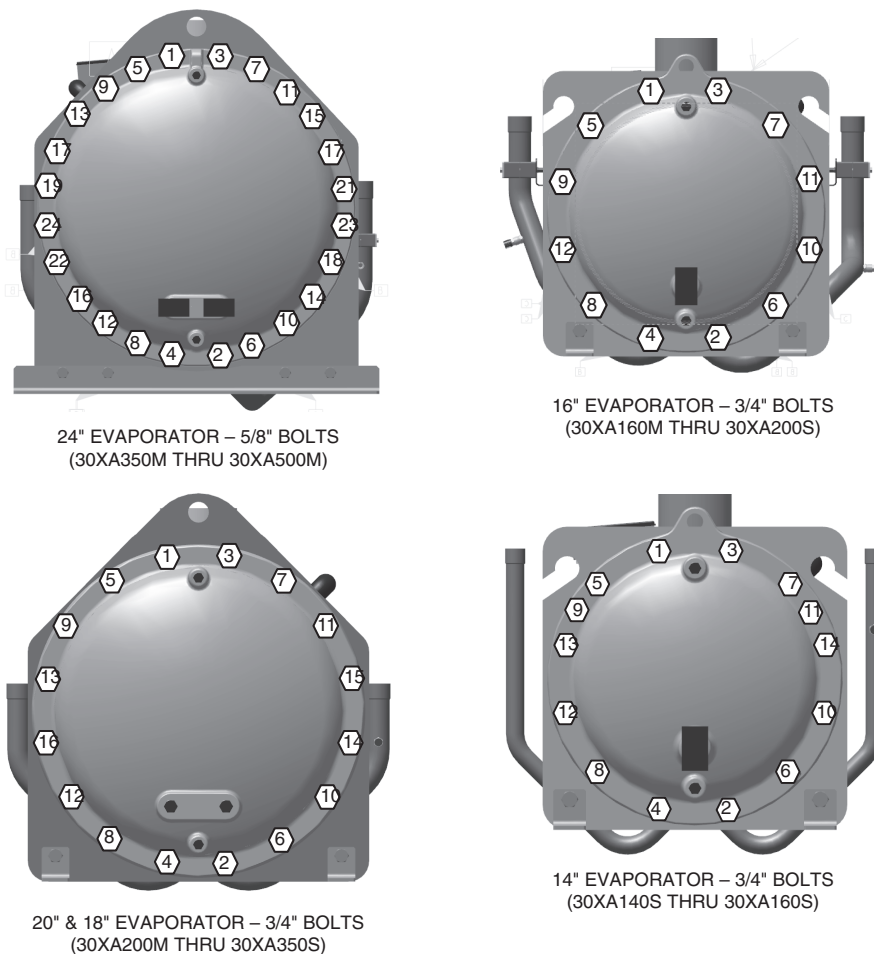

Fig. 81 — Flooded Evaporator Unit Head Recommended Bolt Torque Sequence
2. Bolt tightening sequence is outlined in Fig. 81. Follow the numbering or lettering sequence so that pressure is evenly applied to O-ring.